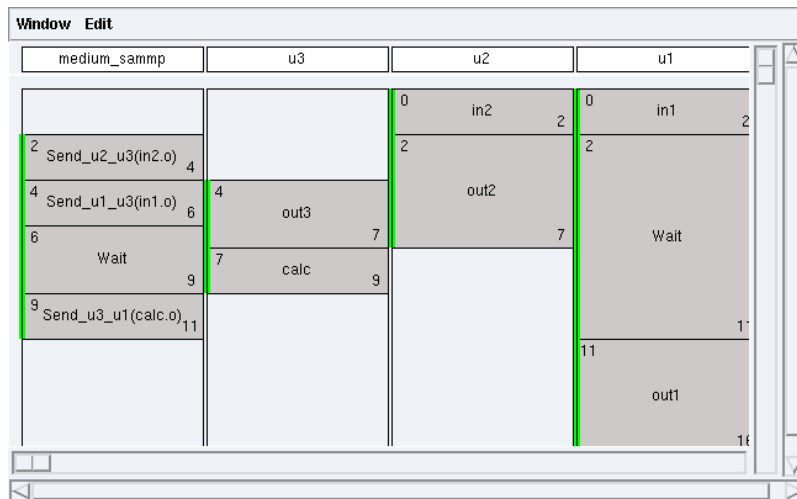

Figure 1.26: Schedule with constraints
- from the principal window, to perform the adequation with constraints: **Adequation / Launch Adequation**, then **Adequation / Display Schedule** → schedule window. The schedule looks like the figure 1.26.